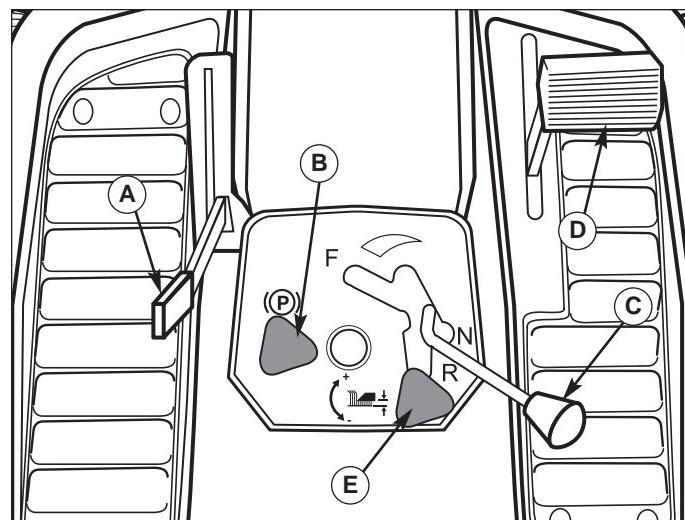

Figure 3. Controls
- Seat yourself on the rider seat in the operating position. Set the parking brake using the brake pedal (D, Figure 3) and parking brake knob (B).